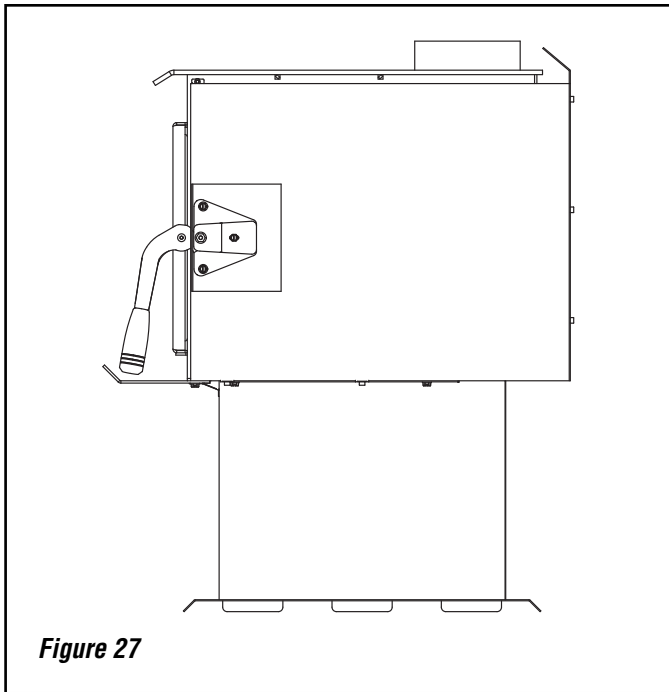

Figure 27
Step 1. Carefully remove the baffle blankets and baffle board (see **Figure 27**).